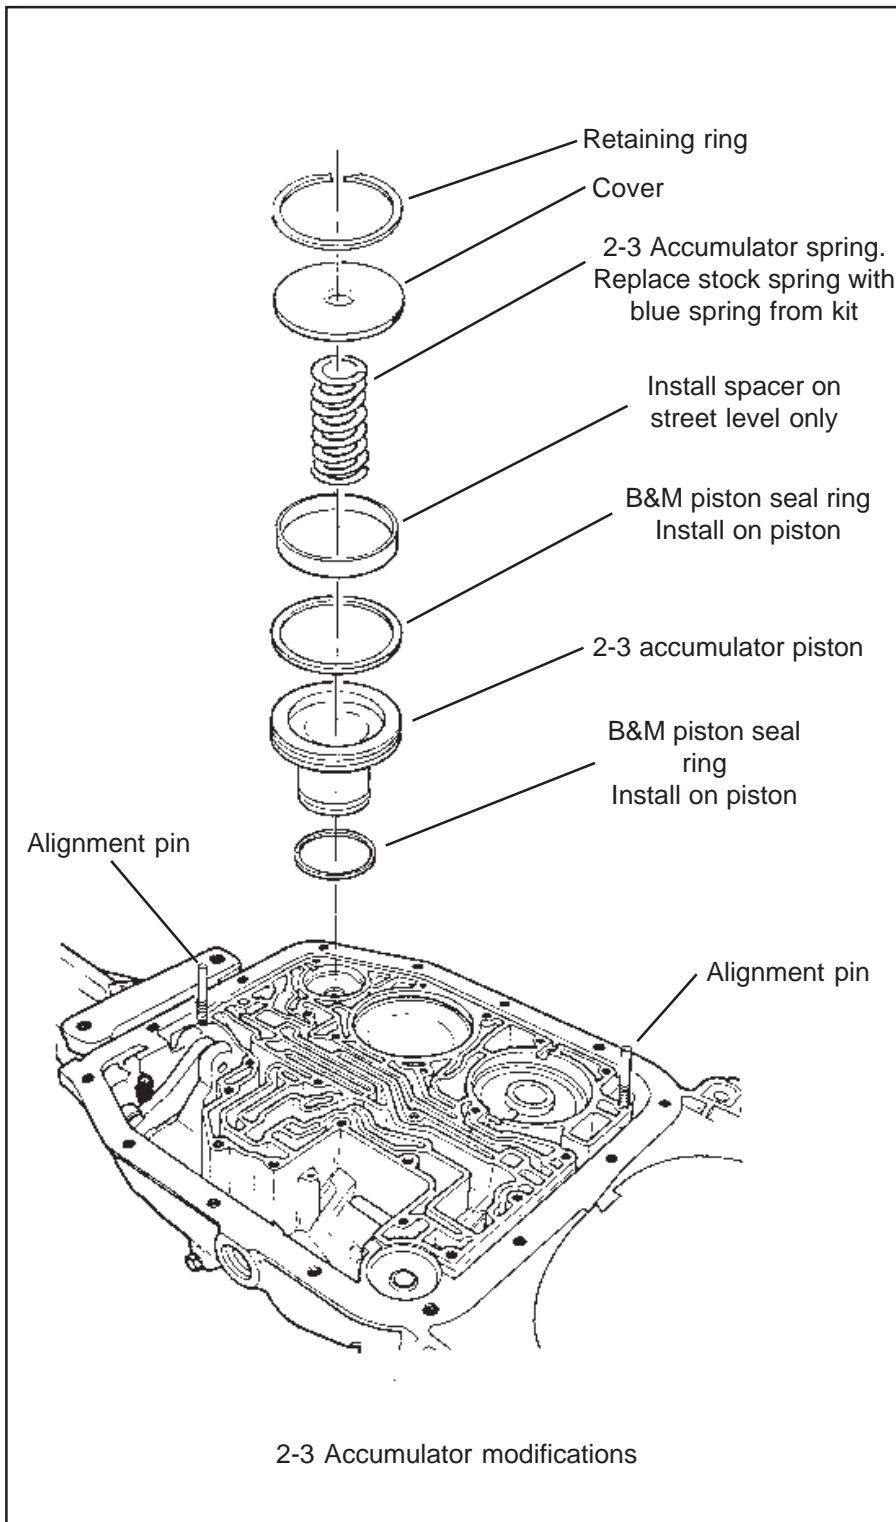

Figure 6
STEP 13. Remove retaining ring, 2-3 accumulator cover, 2-3 accumulator spring and 2-3 accumulator piston from 2-3 accumulator bore (See Fig. 6). Remove (2) seal rings from accumulator piston. Coat the (2) square
STEP 14. Heavy Duty only; Replace stock 2-3 accumulator spring with the **BLUE** spring supplied in kit. Install **BLUE** 2-3 accumulator spring, cover and retaining ring (See Fig. 6).
STEP 15. Street only; Replace stock 2-3 accumulator spring with the **BLUE** spring supplied in kit. Install **BLUE** 2-3 accumulator spring, **B&M** 2-3 accumulator spacer, cover and retaining ring (See Fig. 6).
STEP 17. Remove all old gasket material from the case surface. Install (2) M6x40mm (1.56") alignment pins (supplied in kit) into the holes shown (See Fig. 6). Install case to separator plate gasket over alignment pins. Use a few dabs of grease to hold the gasket against the case.